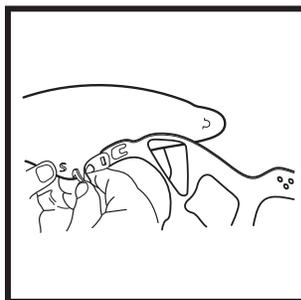

Figure 10
- Orient the sweatband per **Figure 10 and 11** with the white mesh as shown.
- Insert two plastic arrowheads (on front of headband) into the foam sweatband slots near the center. **(See Figure 10)**